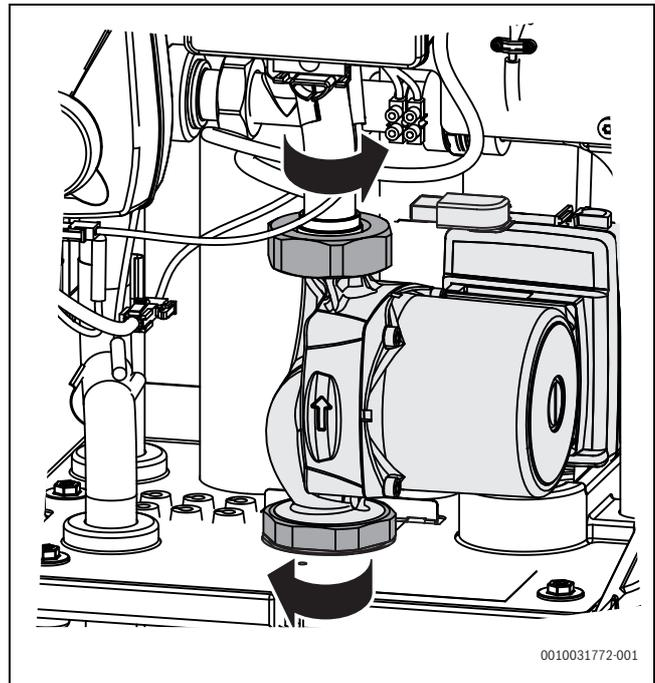

Fig. 39 Undo union nuts
- ▶ Undo union nuts at the pump then remove the pump and gaskets (→Fig. 39). As you do so, counterhold at the coupling points using a suitable tool.